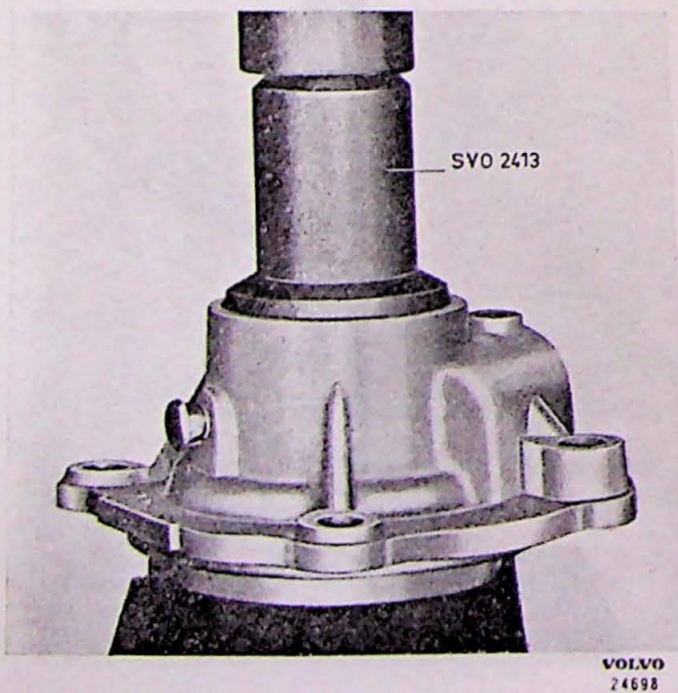

Fig. 3-22. Fitting sealing ring in rear cover
Place the speedometer gear (11) on the bearing in the rear cover. Press in the sealing ring (18) with drift SVO 2413, see Fig. 3-22.